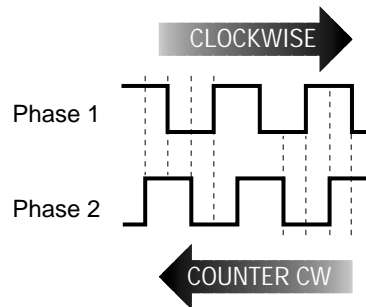

Figure 1. Quadrature waveforms from a rotary encoder contain directional information.
This phase relationship provides the information needed to determine the encoder's direction of rotation (see figure 1).
The dotted lines in figure 1 indicate a common method of reading direction. For instance, if phase 1 is high and phase 2 is rising, the direction is clockwise (CW). If phase 1 is low and phase 2 is rising, the direction is counterclockwise (CCW).